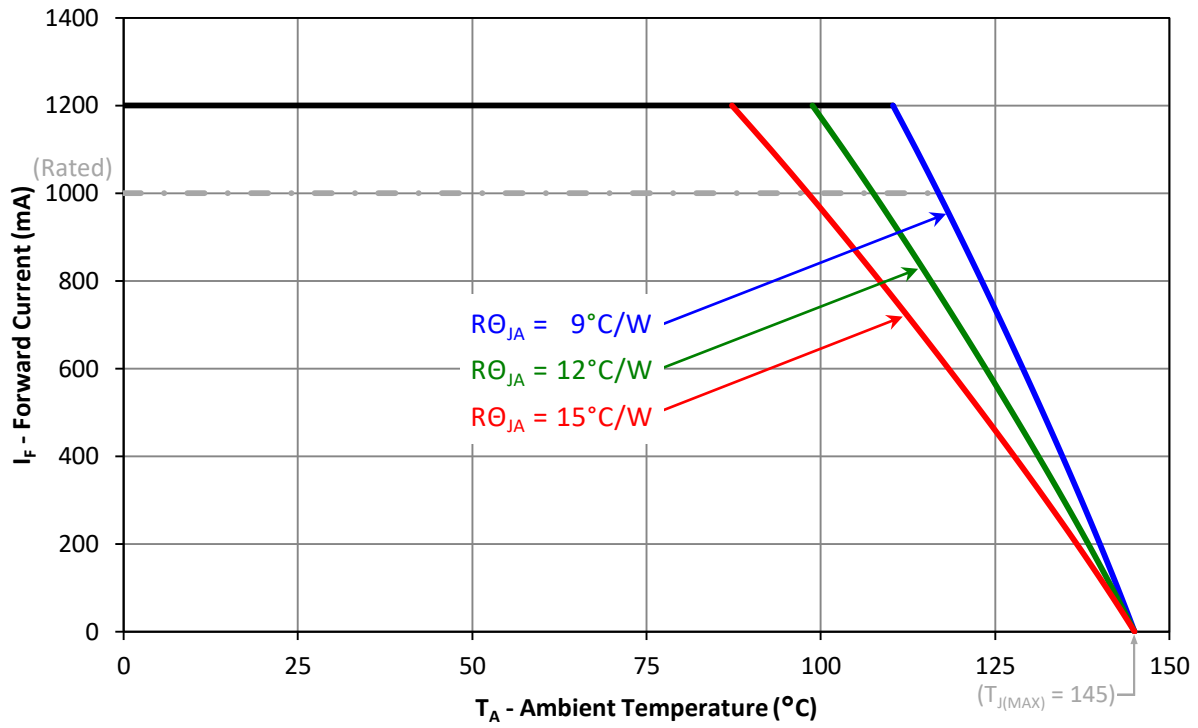

Figure 11: Maximum forward current vs. ambient temperature based on  $T_{j(\text{MAX})} = 145^{\circ}\text{C}$ .
- Maximum DC forward current is determined by the overall thermal resistance and ambient temperature. Follow the curves in Figure 11 for current derating.
Notes for Figure 11: